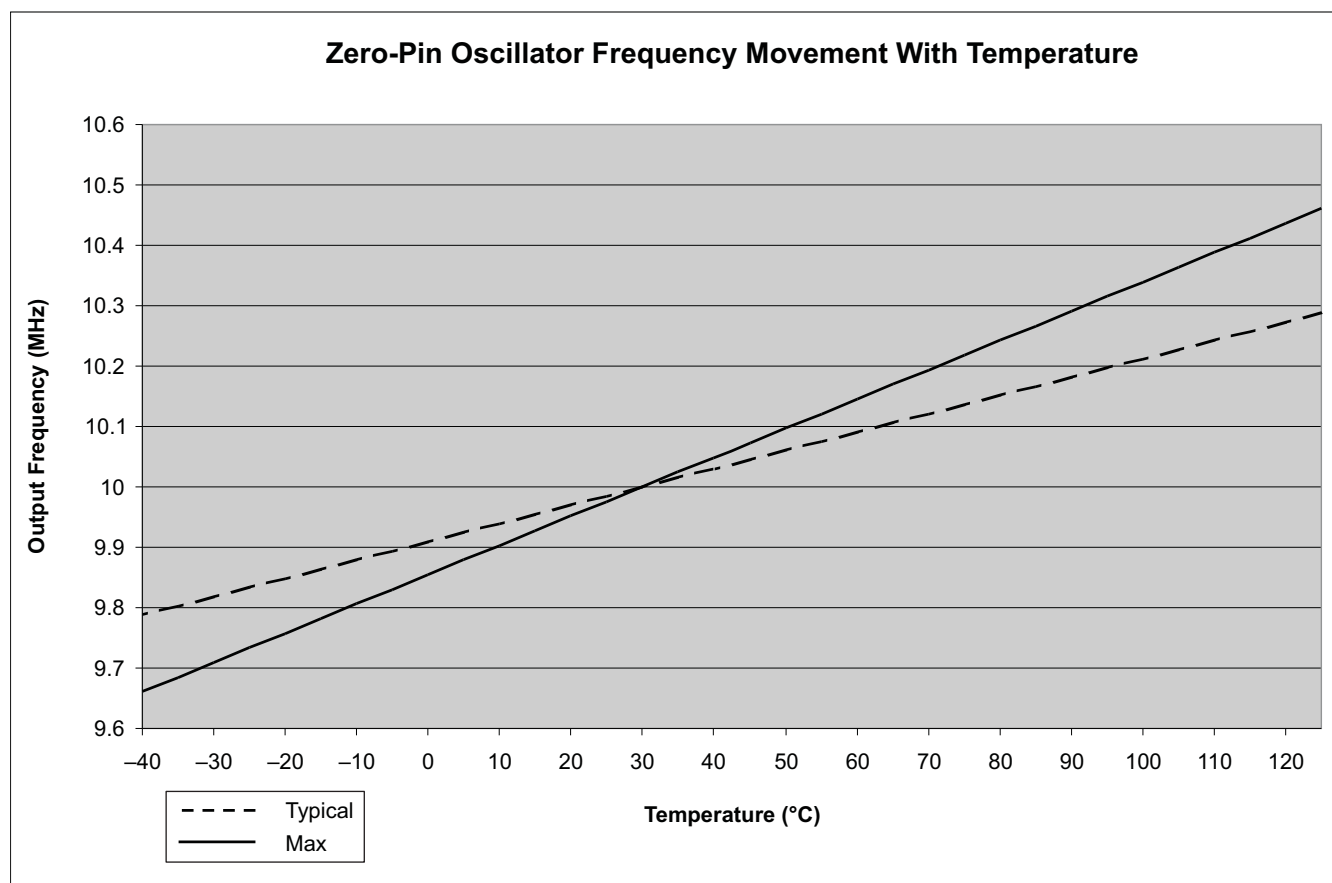

Figure 5-9. Zero-Pin Oscillator Frequency Movement With Temperature
- (1) To achieve better oscillator accuracy (10 MHz ± 1% or better) than shown, see the Oscillator Compensation Guide. See Figure 5-9 for TYP and MAX values.
- (2) Frequency range is ensured only when VREG is enabled, $\overline{\text{VREG}} = \text{V}_{\text{SS}}$.
- (3) Output frequency of the internal oscillators follows the direction of both the temperature gradient and voltage (V_{DD}) gradient. For example: